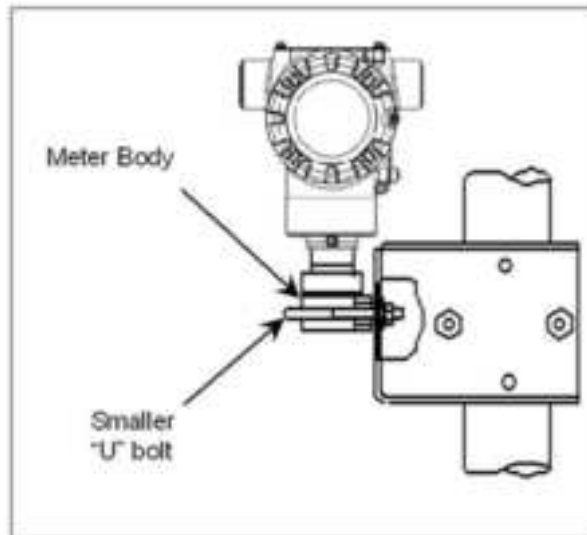

Figure 46 – ST 700 Basic Transmitter – Inline Model Mounted to an Optional Bracket
1. Refer to Figure 46 for position of the bracket on a 2-inch (50.8mm) nominal, 2.38-inch (60.4mm) actual, horizontal or vertical pipe, and install a “U” bolt around the pipe and through the holes in the bracket. Secure the bracket with the nuts and lock washers provided.